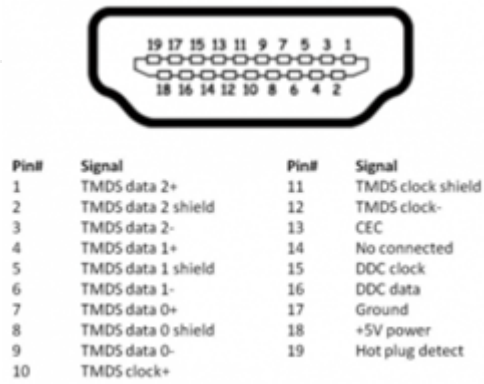

Figure 1-5 HDMI interface
- G. HDMI external interface: (as shown in figure 1-5) This interface is an HDMI type A interface, the user can connect the HDMI display interface to display the operation page to other device terminals, press the screen toggle button can be used.